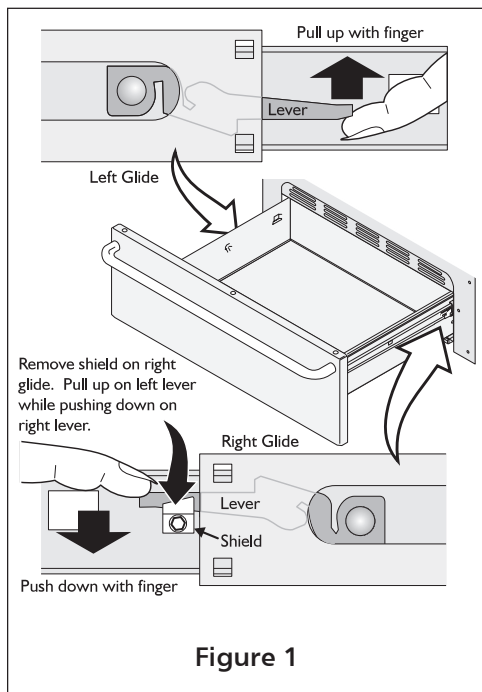

Figure 1
3. On the right glide you will find a shield attached with a hex-head screw (see figure 1). Using a 1/4" socket and ratchet remove the shield.